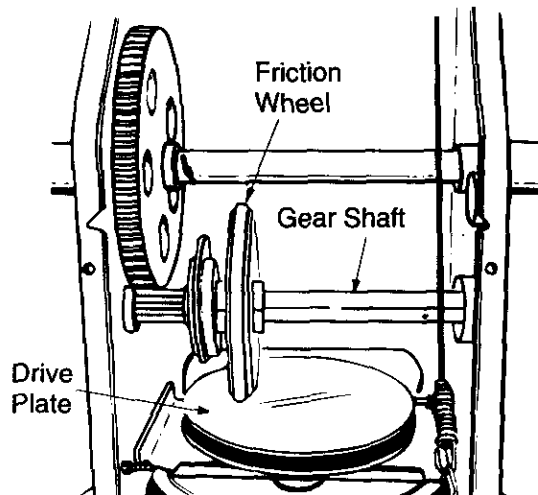

Figure 21
2. With the traction control released, there must be clearance between the friction wheel and the drive plate in all positions of the shift lever. With the traction control engaged, the friction wheel must contact the drive plate. See Figure 21.